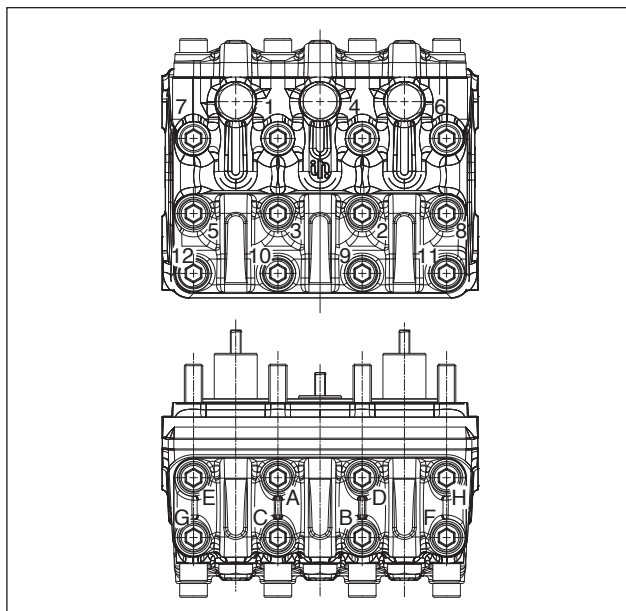
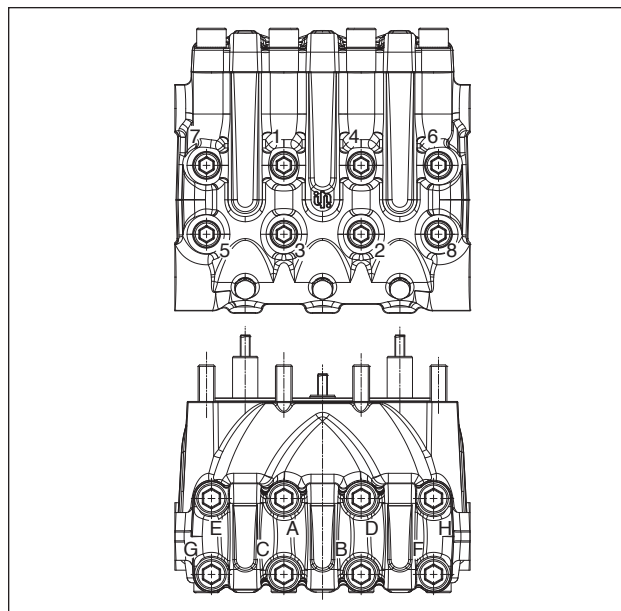

Fig. 50
Fig. 51
** The head fixing screws must be tightened with a torque wrench respecting the order shown in the diagram in Fig. 50 and Fig. 51.
*** The valve cover fixing screws must be tightened with a torque wrench respecting the order shown in the diagram in Fig. 50 and Fig. 51.
**** The stud bolt M7 exploded view pos. 35, is to be mounted on the spacer exploded view pos. 34 with LOCTITE 243 code 12006400.